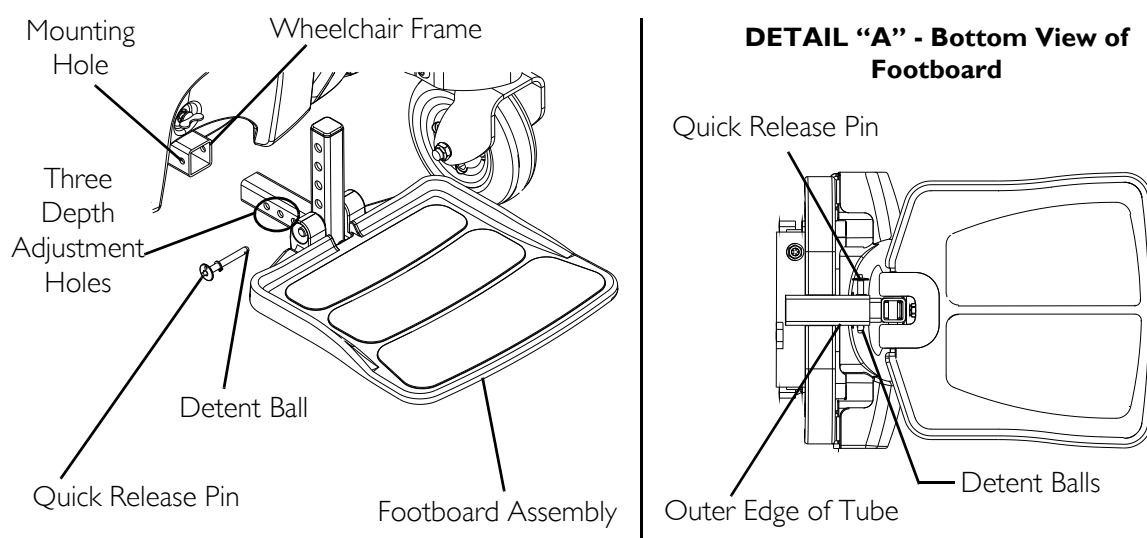

FIGURE 7.3 Adjusting the Footboard Assembly - Depth
NOTE: For this procedure, refer to FIGURE 7.3.
3. Install the quick release pin. Make sure the detent balls are engaged with the outer edge of the tube (Detail "A" of FIGURE 7.3).